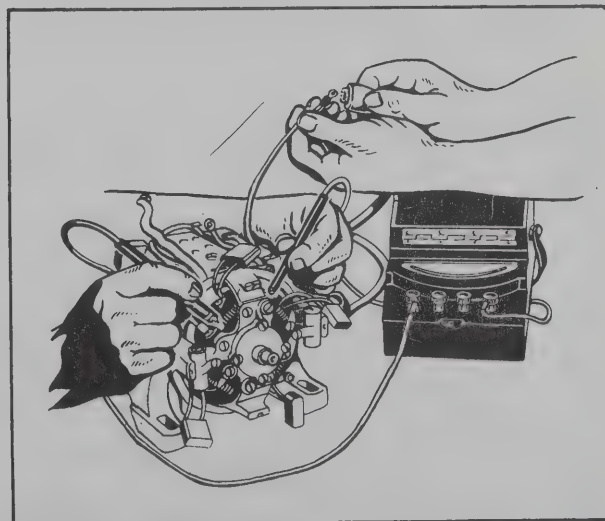

Figure 9-5. Neutral Setting
d. While holding the armature to prevent rotating, carefully hold test probes on central bars in adjoining brush holders while an assistant touches approximately 24 volts DC to open shunt field leads for just one second. The millivoltmeter pointer should suddenly deflect slightly and return. (See figure 9-5.)